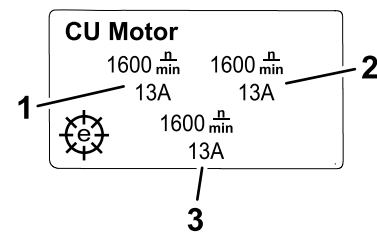

Figure 20
- **CU motor information screen (Figure 20):** shows the speed and current of each cutting-unit motor.